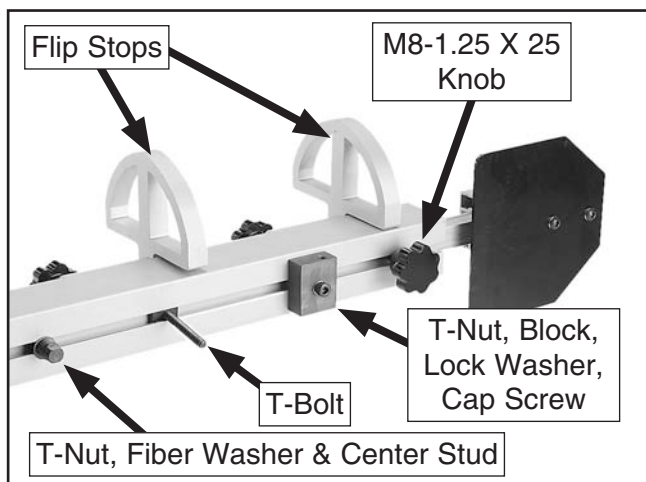

Figure 46. Crosscut fence assembly.
40. Install the components shown in **Figure 46** on the crosscut fence.